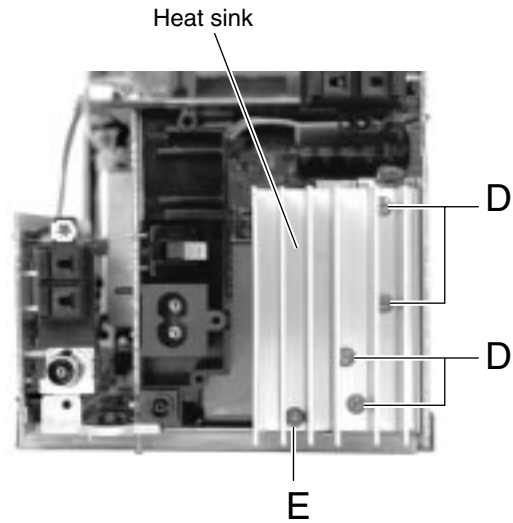

Fig. 9
■ **Removing the power amplifier board and heat sink (See Fig. 9 to 11)**